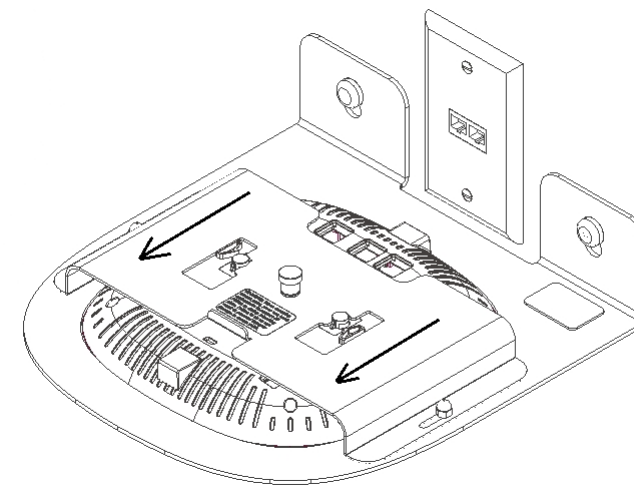

Figure 3
Step 5 – While gently pushing the access point against the mounting plate, slide the mounting plate away from the wall until the plunger falls into place, locking the access point (Ref figure 3).